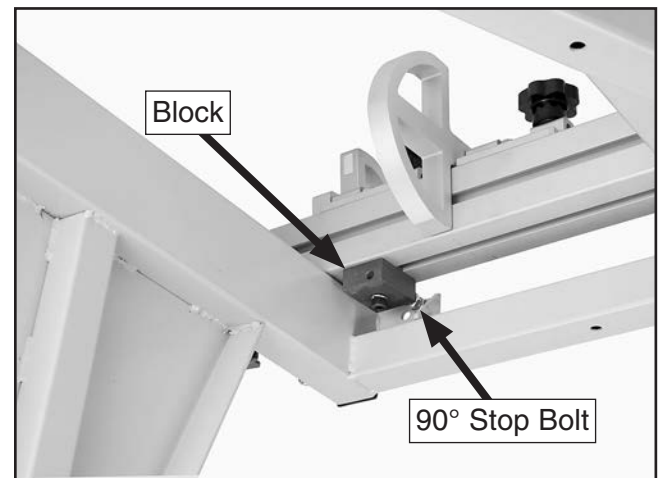

Figure 84. Crosscut fence mounting locations.
1. Drop the crosscut fence into the center stud hole and rotate it until the block shown in **Figure 84** touches the 90° stop bolt.